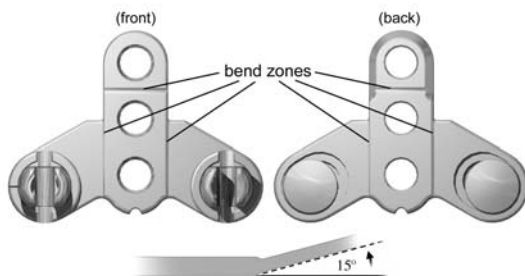

Figure 12b
- To contour the OC Plate, place it securely in the bender and gently bend to desired radius (Figure 12a). The contouring should be performed only in the bend zones to avoid damage to the sliding connectors. The OC Plate can be bent to a maximum of 15° in either direction (Figure 12b).